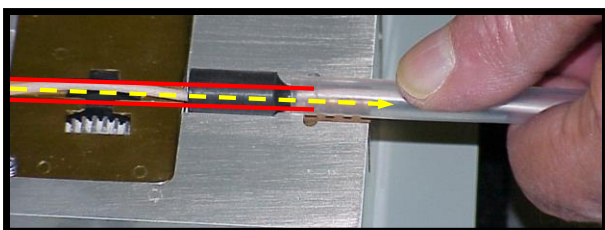

Figure 26
11.6 Verify the Fiber Bundle is positioned in the center of the lower Brass Plate (in the groove) and also aligned with the lower Fiber Bundle Drive Wheel. **See Fig. 26.**